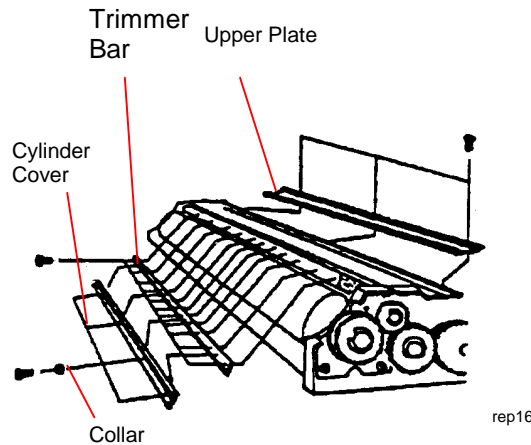

Figure 1. Removing the Trimmer Bar
2. (Figure 1): Remove the three screws and the Upper Plate.